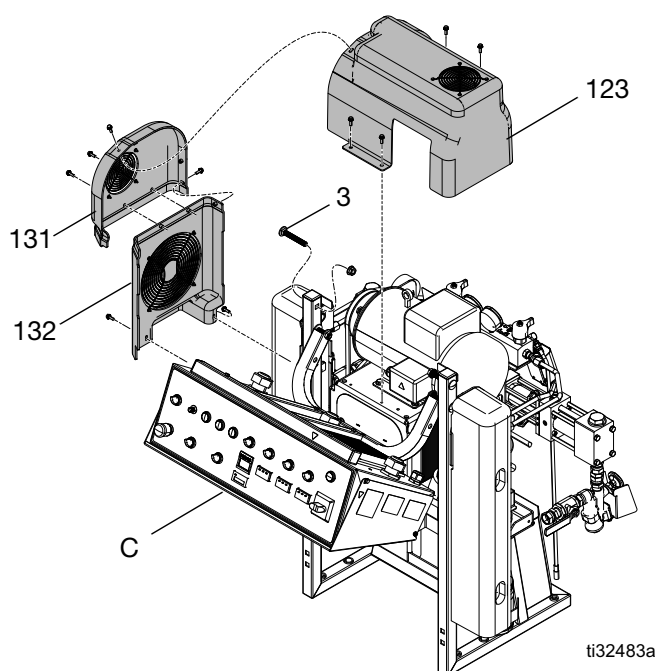
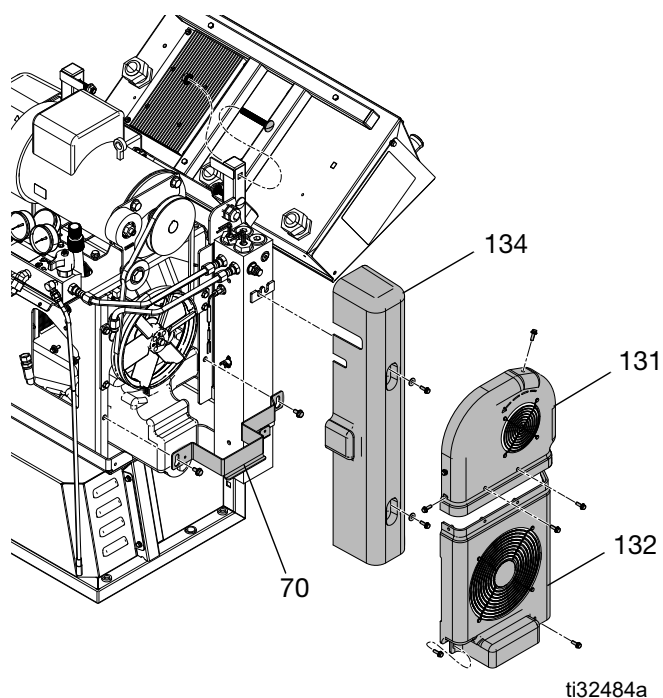

FIG. 63
FIG. 64
6. Remove motor and belt covers (123, 131). Lift cover (123) and loosen the silver bracket (70) fasteners. Lift the silver bracket (70) off of the fasteners and set aside. Remove the belt covers (131, 132). Remove the heater cover (123). See FIG. 63 and FIG. 64.